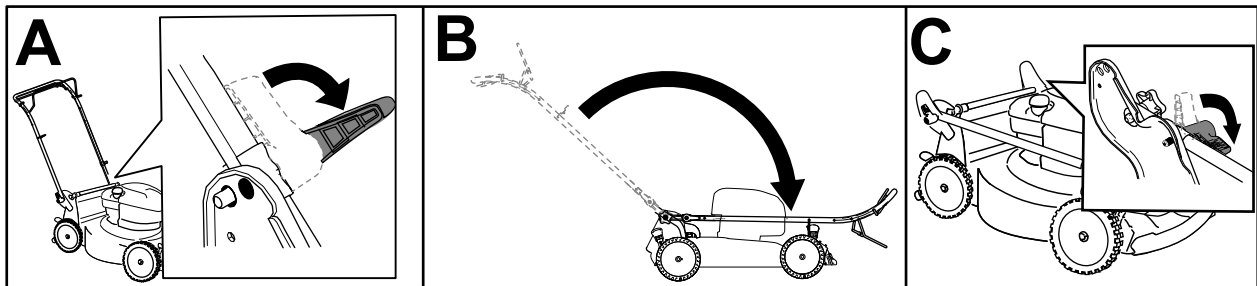

Figure 18
3. Disengage the handle locks (A of Figure 18).
4. Fold the handle fully forward (B of Figure 18).
5. Engage the handle locks (C of Figure 18).